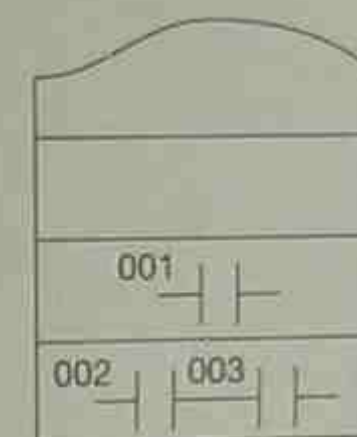

Figure 18-17 LIFO Stack after AND, STR Command
The keystrokes AND, STR take the last contact entered (003) and AND it with the next contact up in the stack (002). Figure 18-17 shows what the stack looks like after the AND, STR commands are entered.